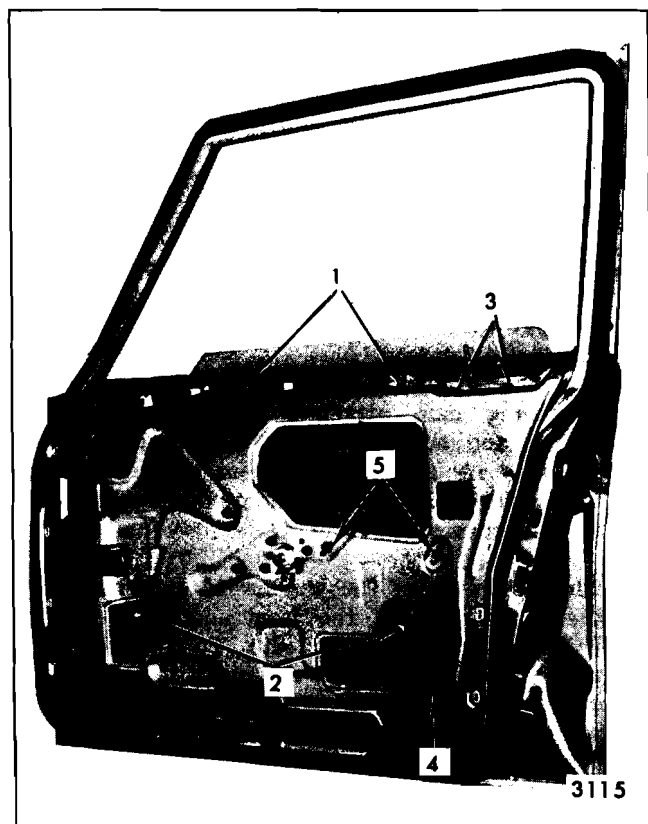

Fig. 6-86—Window Removal and Adjustment - "B-69" Styles
2. Loosen window stabilizer strips ("1", Figure 6-86).
3. Operate window to a three-quarter-down position, remove window lower sash channel cam to glass attaching stud nuts ("2", Figure 6-86). Tilt front edge of glass down and remove window inboard of door upper frame.
1. The rear guide is adjustable in and out and fore and aft at the upper and lower attaching locations ("3" and "4", Figure 6-86) to relieve a binding door glass.
2. The door window inner panel cam ("5", Figure 6-86) is adjustable at the front and rear to correct a rotated (cocked) window.